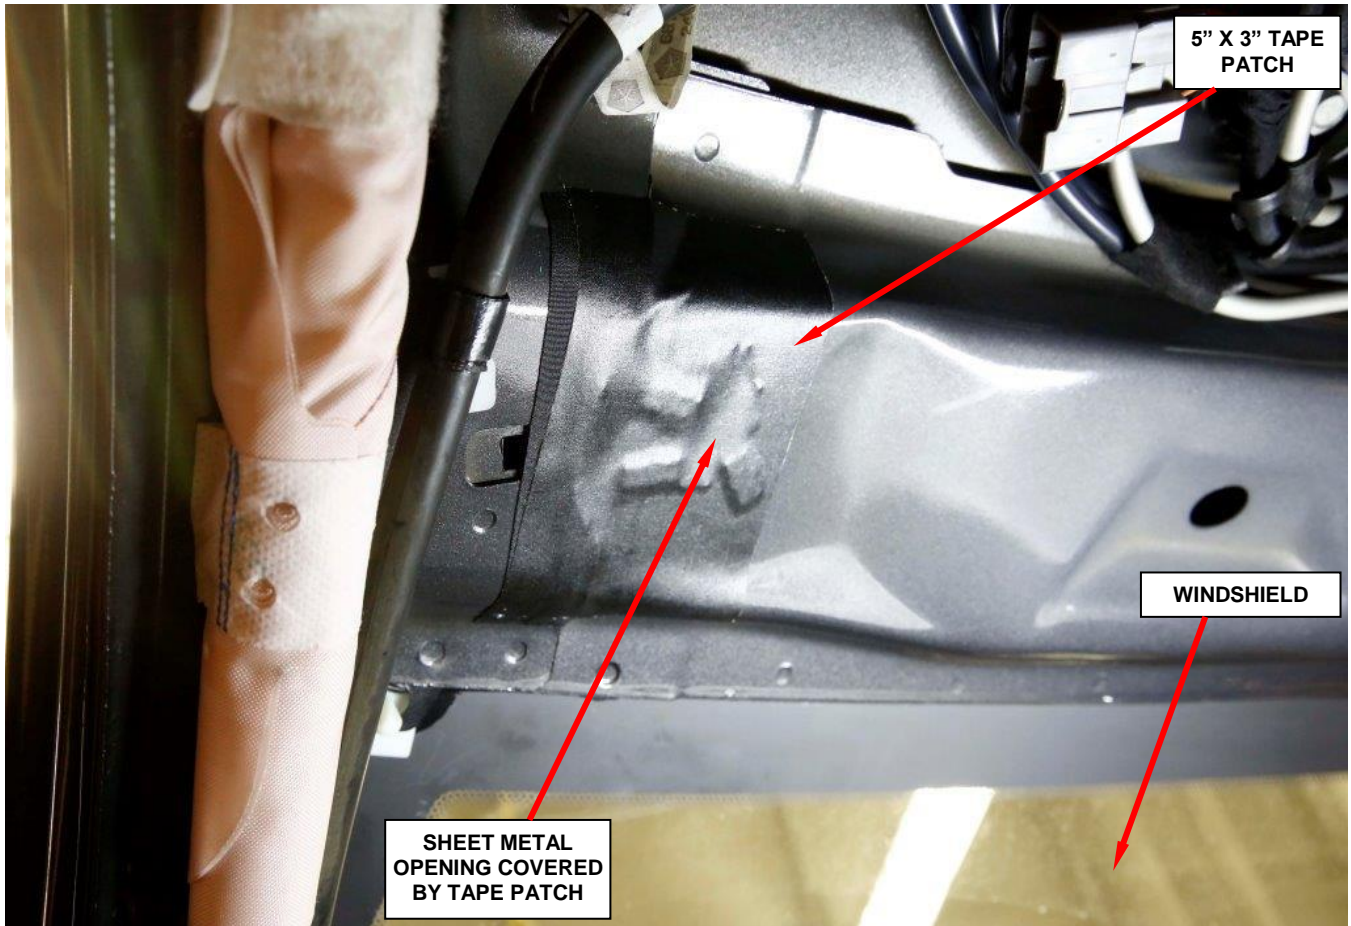

Figure 20 – Apply 5”x 3” Tape Patch over the Abrasion Tape (left side shown)
46. Apply one piece of (5”x 3”) tape patch over the tape applied in Step 46 (Figure 20).
CAUTION: It is critical that the sun visor wire remains under the clip shown in Figure 20 when reinstalling the visor to prevent improper wire routing.